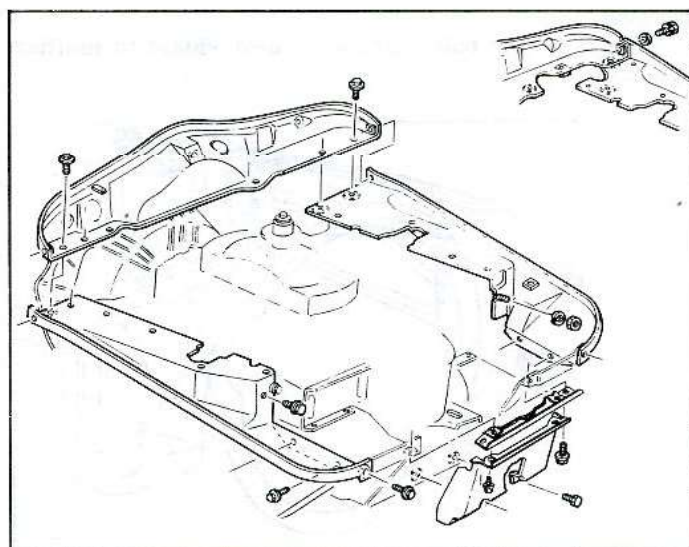

Fig. 21—Engine Shields
#### Front Shield (Fig. 21)
#### Left Shield (Fig. 21)
#### Right Shield (Fig. 21)
**Rear Center Shield (Fig. 21)**